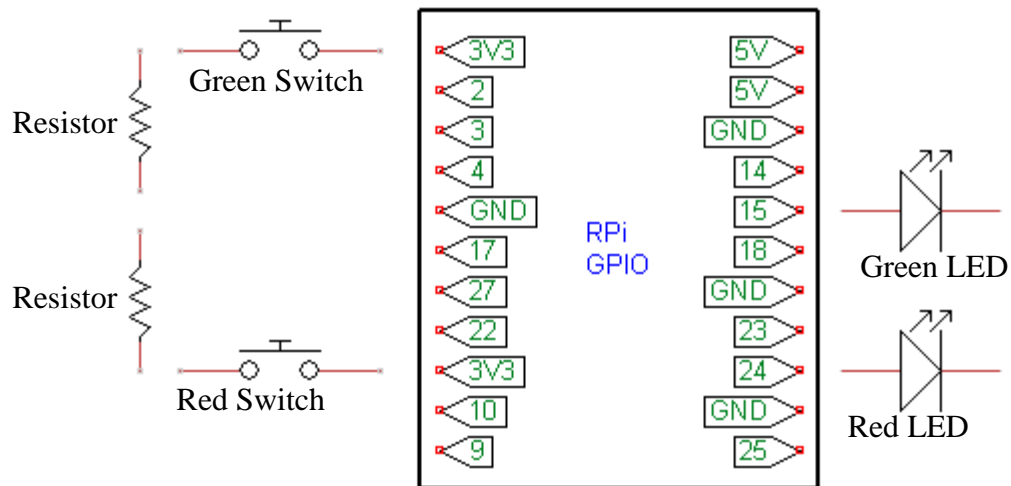

Figure 3[b]
- [b] Draw FOUR (4) electrical circuits for connecting a Raspberry Pi microcontroller with a green switch, a red switch, a green LED and a red LED to its general purpose input/output (GPIO) pins 3, 9, 18 and 24 respectively. Use the symbols shown in Figure 3[b].